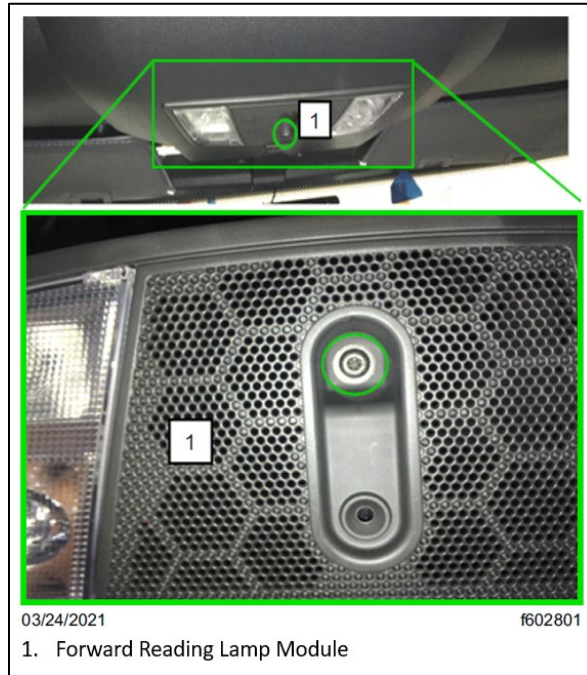

Fig.14, Forward Reading Lamp Module
- 8.1. Remove the fastener that attaches the reading lamp module to the center overhead storage bin, and then remove the reading lamp module from the vehicle. See Fig. 14.